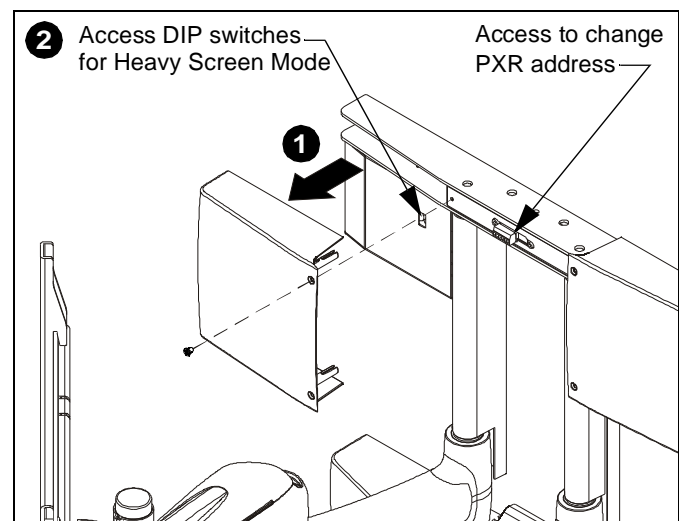

Figure 39
1. Remove the plastic cover from the main circuit board. (See Figure 39)
2. Use a small screwdriver or small pointed object to flip DIP Switch 1 on the main control board to the "off" position. (See Figure 39)
2. Using the DIP switches on the I/O interface (See Figure 39), set the PXR to one of the unused addresses. (See Figure 40)